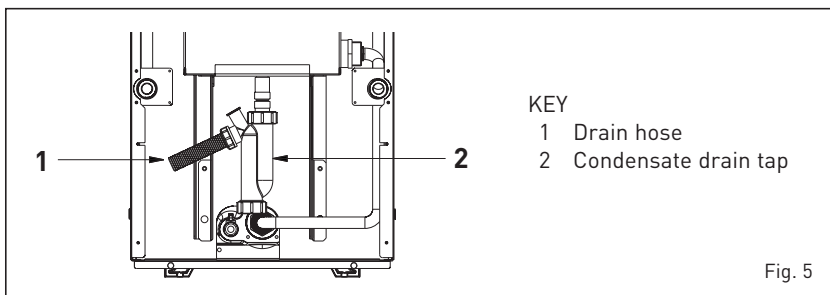

Fig. 5
1.6 CONNECTION OF CONDENSATION WATER TRAP (fig. 5)
1.7 SHELL ASSEMBLY (fig. 5/a - fig. 5/b)